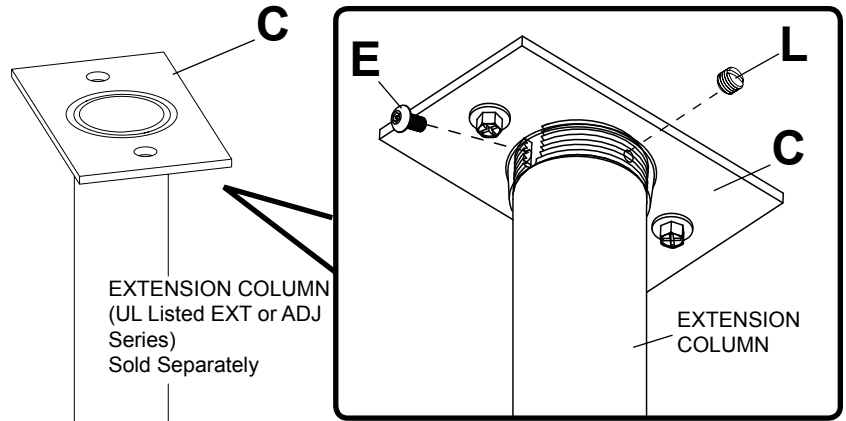

figure 4.1
**4** Screw extension column to ceiling plate (C). Align the notch with one of the four holes in the ceiling plate (C) and secure extension column with a M5 x 10 mm socket pin screw (E) using security allen wrench (U). See figure 4.1